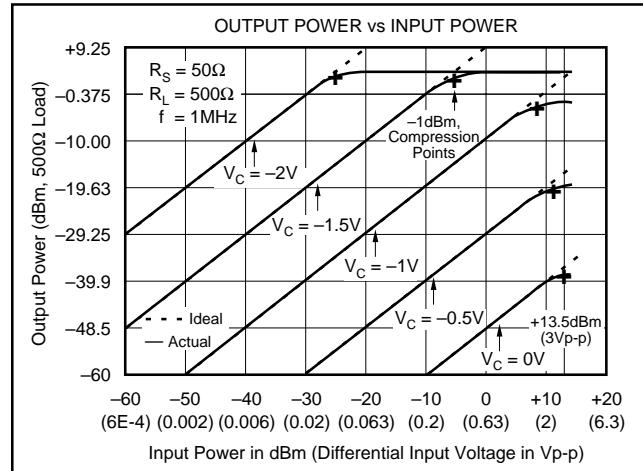

FIGURE 2. Input and Output Range.
NOTES: (1) See Input/Output Range discussion in the Applications Information section (Figure 2). (2) Gain is laser trimmed and tested at control voltages of 0V to  $-2V$  in 200mV steps;  $V_{IN} = 1V_{pp}$  for  $V_C > -1V$  gains less than 0dB;  $V_{OUT} = 1V$  for  $V_C < -1V$ . (3) Output offset change from offset at  $V_C = 0V$ . (4) Gain =  $+40dB$ ; Input step of 2V to 2mV; time required for output to return from saturation to linear operation. (5)  $V_{IN} = 7mV_{pp}$ ,  $V_{OUT} = 700mV_{pp}$  (250mVrms); Output Power =  $-10dBm/tone$ ; equal amplitude tones of  $5MHz \pm 500Hz$ ,  $V_C = -2V$ . See Typical Performance Curves. (6) With  $R_S = 0\Omega$ , and noise bandwidth of  $1MHz$ . IDR =  $20 \log(V_{ORMS}/(e_{ORMS} \cdot \sqrt{BW}))$  where  $V_{ORMS}$  is rms output voltage,  $e_{ORMS}$  is output noise spectral density, and BW is noise bandwidth.
The VCA610's  $77\text{dB}$  gain range allows the user to handle an exceptionally wide range of input signal levels. If the unit's input and output voltage range specifications are exceeded, however, signal distortion and amplifier overloading will occur. The VCA610's maximum input and output voltage range is best illustrated in Figure 2.
Figure 2 plots output power versus input power for five voltage gains spaced at  $19.25\text{dB}$  intervals. The  $1\text{dBm}$  compression points occur where the actual output power (solid lines) deviates by  $-1\text{dBm}$  from the ideal output power (dashed lines). Compression is produced by different mechanisms depending on the selected gain. For example, at  $G = -38.5\text{dB}$  ( $V_C = 0$ ),  $1\text{dBm}$  compression occurs when the input signal approaches approximately  $3\text{Vp-p}$  ( $13.5\text{dBm}$  for  $R_S = 50\Omega$ ). Input overloading is the compression mechanism for all gains from  $-38.5\text{dB}$  to about  $-5\text{dB}$ . For gains between  $-5\text{dB}$  and  $+5\text{dB}$ , the compression is due to internal gain stage overloading. Compression above a gain of  $+5\text{dB}$  occurs when the output signal becomes distorted as internal gain stages become overdriven. At  $G = 0\text{dB}$ ,  $1\text{dBm}$  compression occurs when the input exceeds approximately  $1.5\text{Vp-p}$  ( $7.5\text{dBm}$ ). At gains greater than about  $5\text{dB}$ , the compression mechanism is due to output stage overloading.
As shown in Figure 2, the onset of overload occurs whenever the actual output begins to deviate from the ideal expected output. If possible, the user should operate the VCA610 within the linear regions shown in order to minimize signal distortion and overload delay time. However, instances of amplifier overload are actually quite common in Automatic Gain Control (AGC) circuits which involve the application of variable gain to signals of varying levels. The VCA610's design incorporates circuitry which allows it to recover from most overload conditions in  $200\text{ns}$  or less. Overload recovery time is defined as the time required for the output to return from overload to linear operation following the removal of either an input or gain-control overdrive signal.